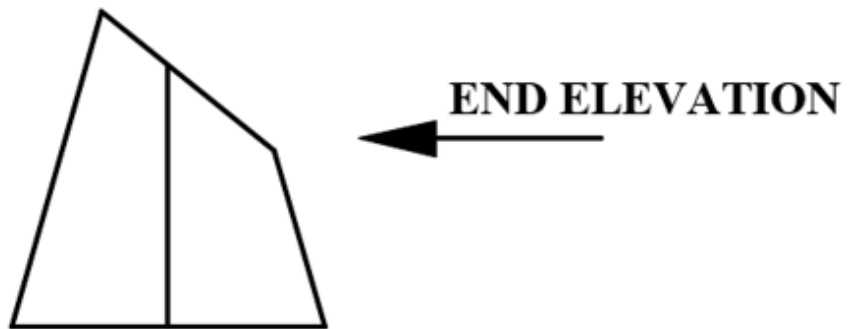

Fig 2
9. The FIGURE 2 below shows the Front Elevation of equilateral triangular pyramid drawn in Third angle orthographic projection. Draw the plan and End elevation in the direction of the arrow. (6 marks)